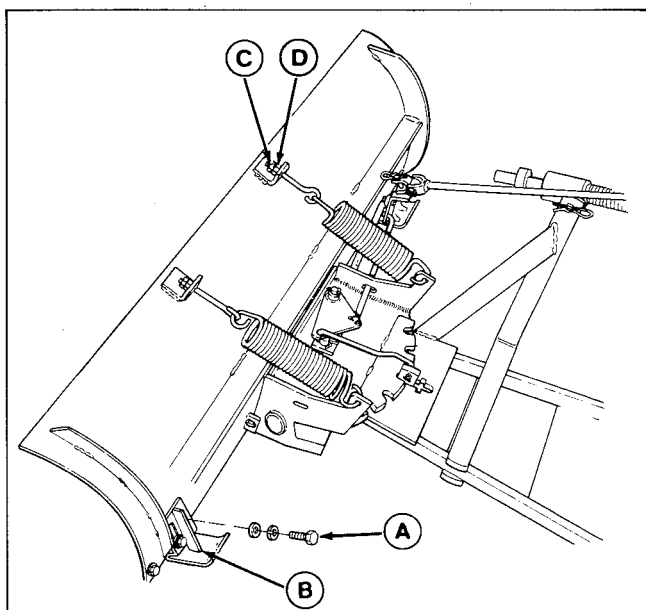

Figure 9. Skid Shoe Adjustment (46" Blade Shown)
To adjust the skid, raise the blade off the ground and block with a piece of wood. Loosen the bolts (A, figure 9). Move the skid shoes (B) up or down to the desired height. Tighten the bolts after adjustment is correct. Make sure the skid shoes are set to equal height.